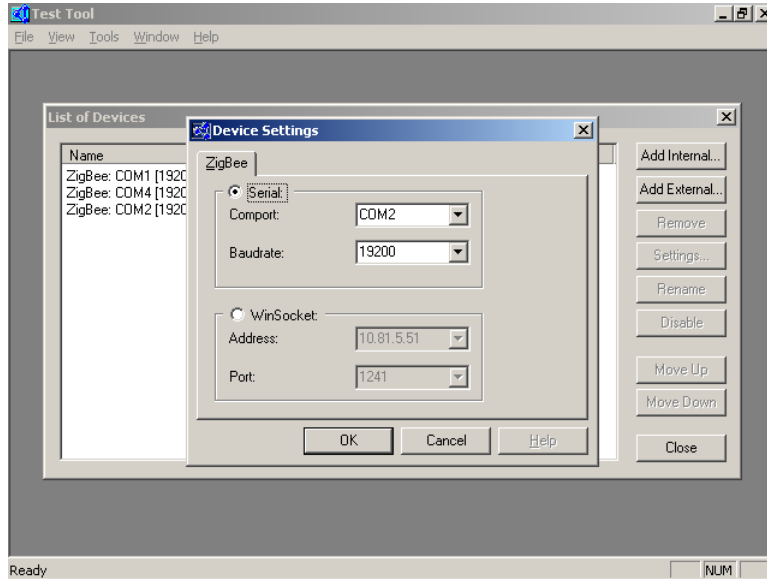

Figure 3-2. Test Tool Window (List of Devices Screen)
6. The List of Devices window appears as shown in Figure 3-2. Click the Add Internal button and the Device Settings window appears as shown in Figure 3-2.